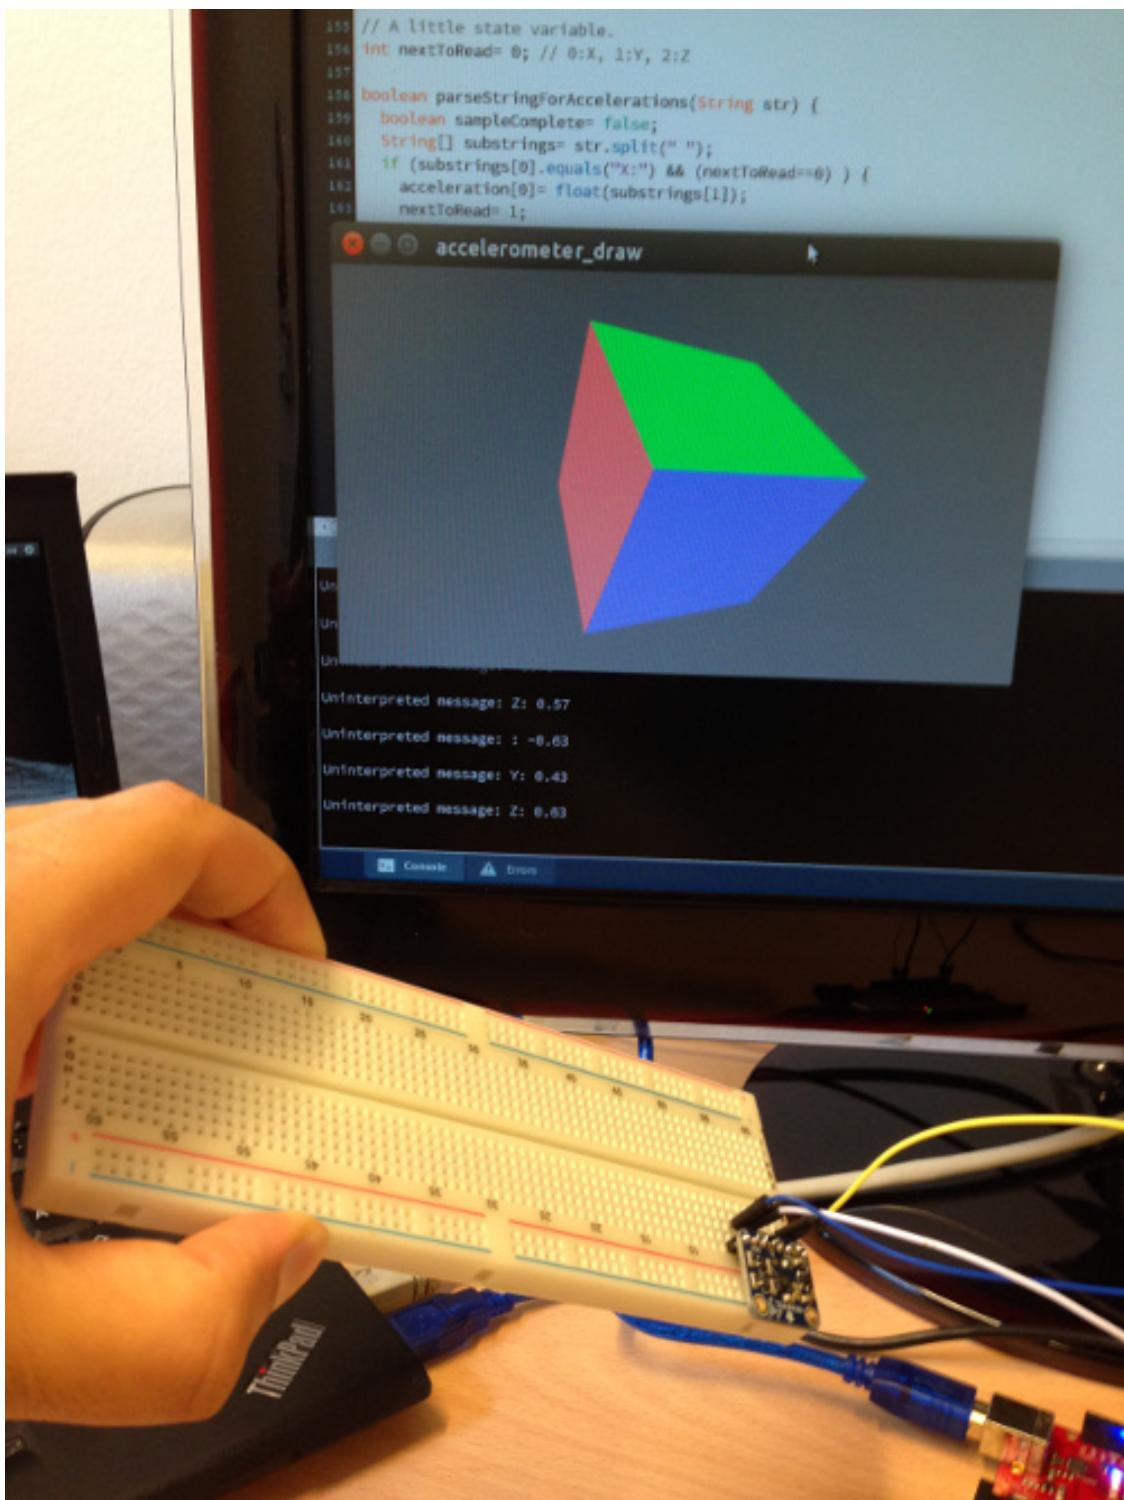

Figure 4.4: Connecting the accelerometer output to a processing GUI.
5. Now run the GUI: It should appear as in Fig. 4.4. For seeing the correspondance between the accelerometer orientation and the box orientation, initially align the accelerometer (mounted on the breadboard) such that the axes schematic printed on it is on the left-bottom corner, i.e. X arrow is pointing right, and Y arrow is pointing away from you.